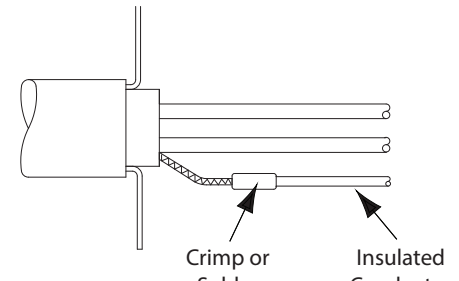

Fig. 3
- 2.5 Crimp an insulated conductor to the pigtail with a suitable insulated butt ferrule (or soldered connection). Leave enough length of the insulated conductor so it can be connected to the earth terminal in the equipment. (Fig. 3). There must be a minimum of 10mm of compound on both ends of the joint.